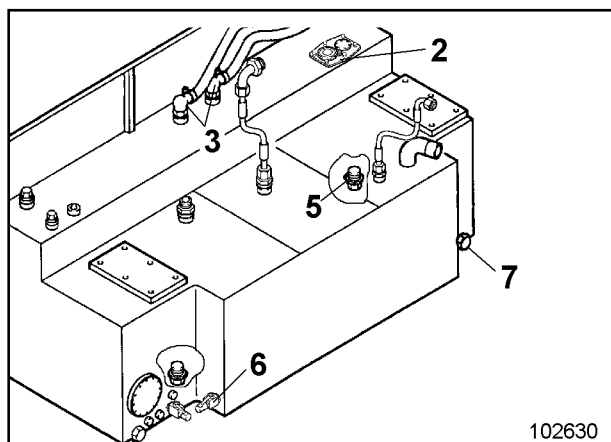

Fig. 5
- Unscrew automatic drain plug (7, Fig. 5) at fuel tank and drain off fuel.
- Screw automatic drain plug (7) back in place.